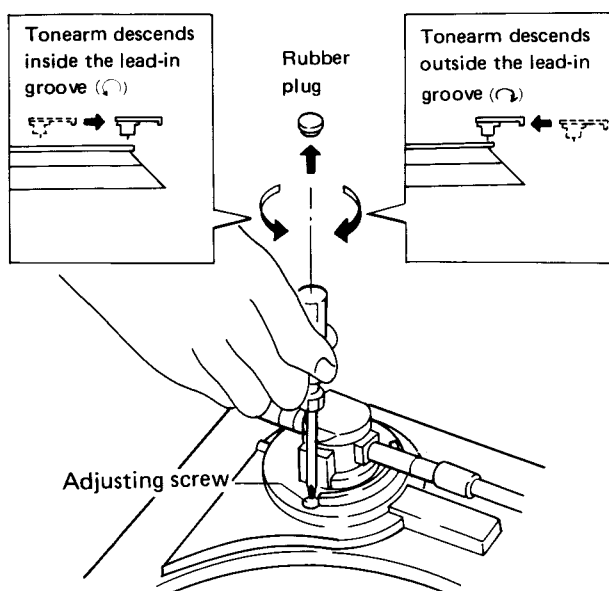

Fig. 14-1 Stylus lowering position
1. Remove the rubber plug (Fig. 14-1).